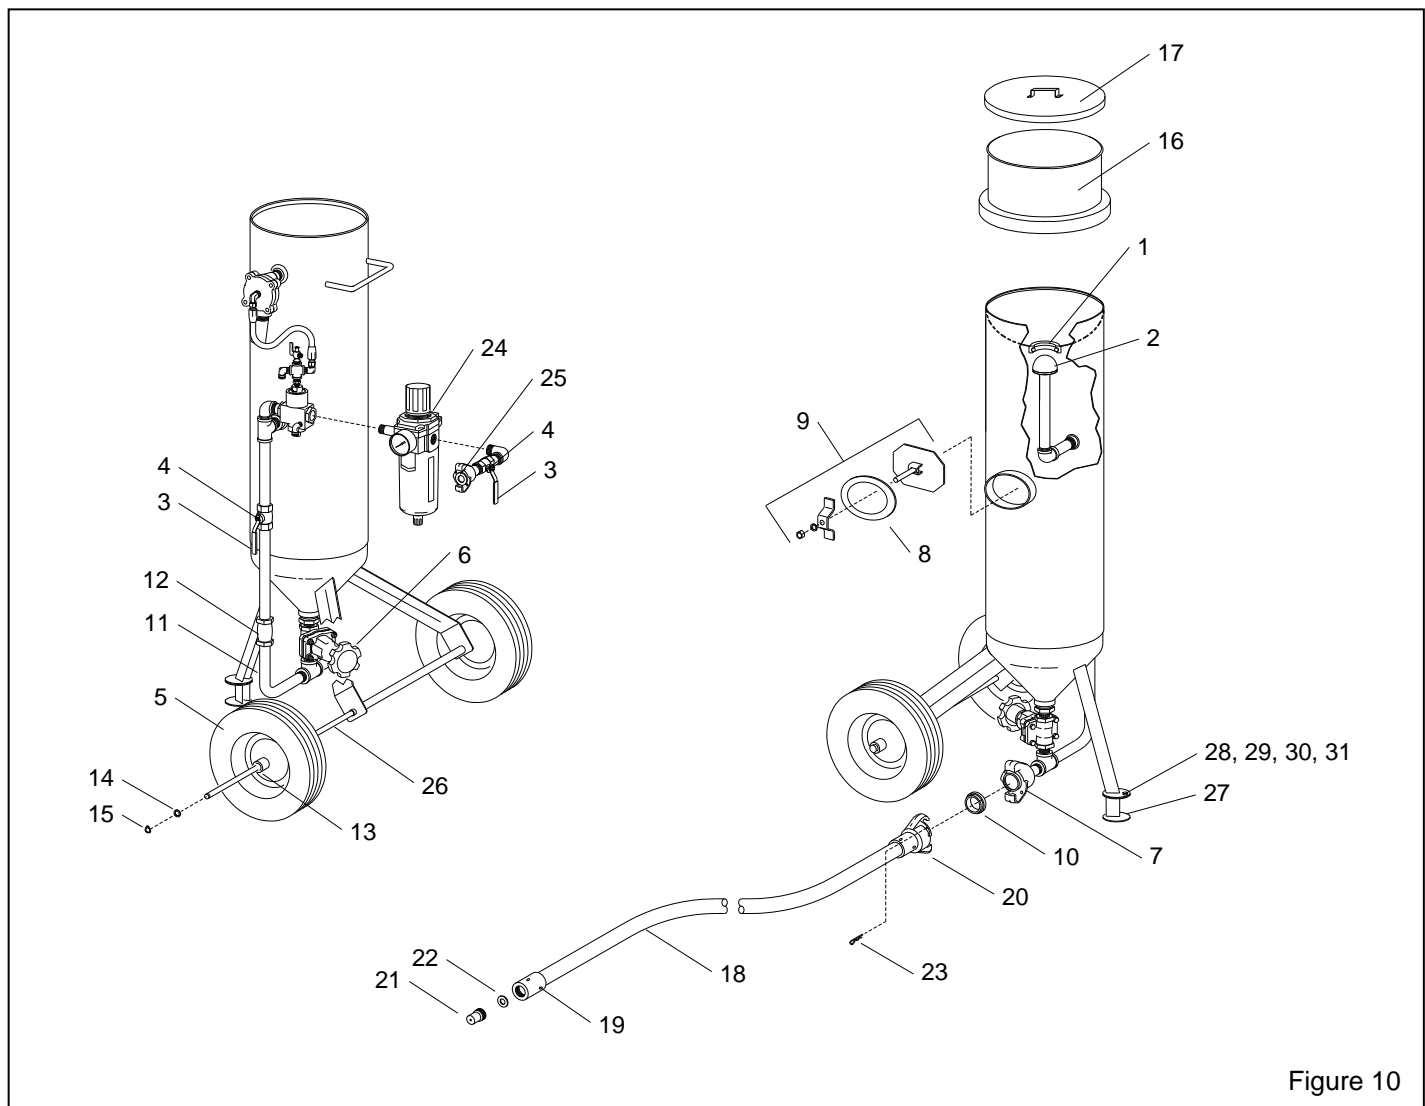

Figure 10
7.2 Blast Machine and Accessories, Figure 10